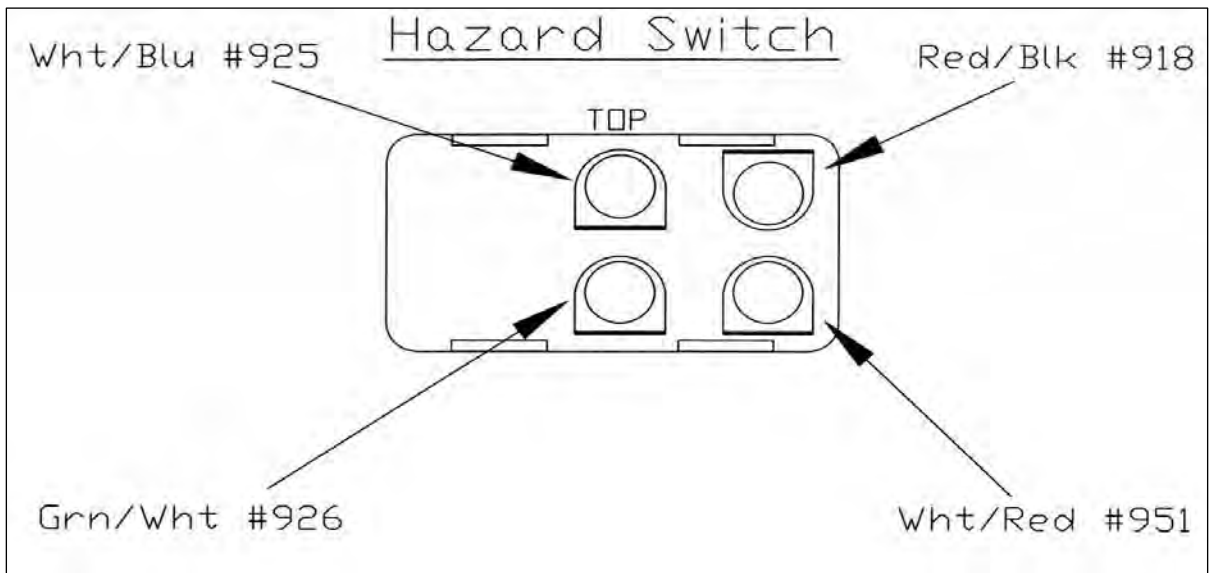

Figure 7-33 Hazard Switch Wire Connections (Early Model Trucks 1967-1977)
7.15.1 On early model Ford Trucks (1967-1972) the Hazard Flasher Switch is located in the glove compartment. On these trucks, route wires #951, #925, #926 and #918 over to the glove compartment Hazard Switch. **See Figures 7-25 & 7-26.** On later model Ford Trucks (1973-1977), all the connections for the Hazard Circuit are done thru the Turn Signal Switch Connector. On these trucks the Hazard Switch is on the column. **Note: On some early model trucks the Hazard Switch is on the dash, next to the cigarette lighter. For these models follow the same pin-out in Figure 7-33.**